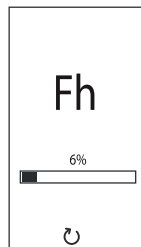

fig. 9 - Vent with fan off
- In the next 280 seconds, the venting cycle continues with the fan off (*fig. 9 - Vent with fan off*).